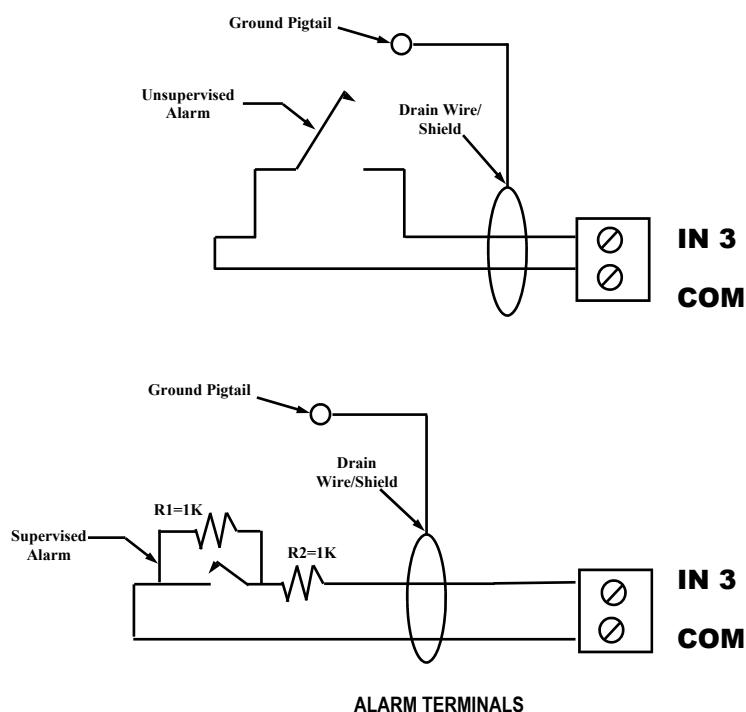

Figure 10 - ALARM Terminals - Unsupervised and Supervised Alarm Connections
Magnetic Stripe Readers require a 5-conductor cable between the uniVerse® and the particular unit (see Figure 10). **Do not use twisted pair cable.**
Four accessory supervised alarm inputs are located on the IN 1, IN 2, IN 3 and IN 4 Accessory ALARM terminal strips located on the bottom left corner of the uniVerse® Interface circuit board (see Figure 10). These alarm inputs may be used for dry contact type inputs (unsupervised) or supervised alarms.
2. Install R1 in parallel with the alarm contacts (see Figure 10).